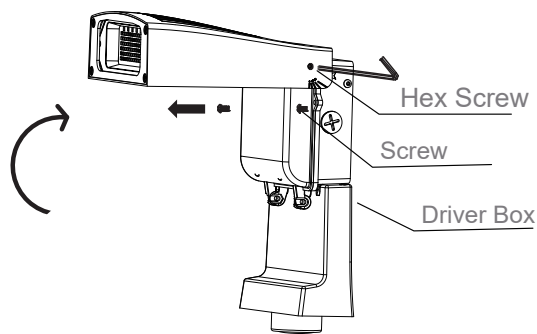

Figure 3
3. Use a 3/32 hexagon wrench to loose the side hex screws and adjust luminaire head upward to 90 degrees. (Figure 3).
4. Open the driver box by unscrewing the top part of the driver box. (Figure 3).
8. Close and secure the driver box, by screwing back the driver box screws. Adjust back the luminaire head to downward position. (Figure 3)